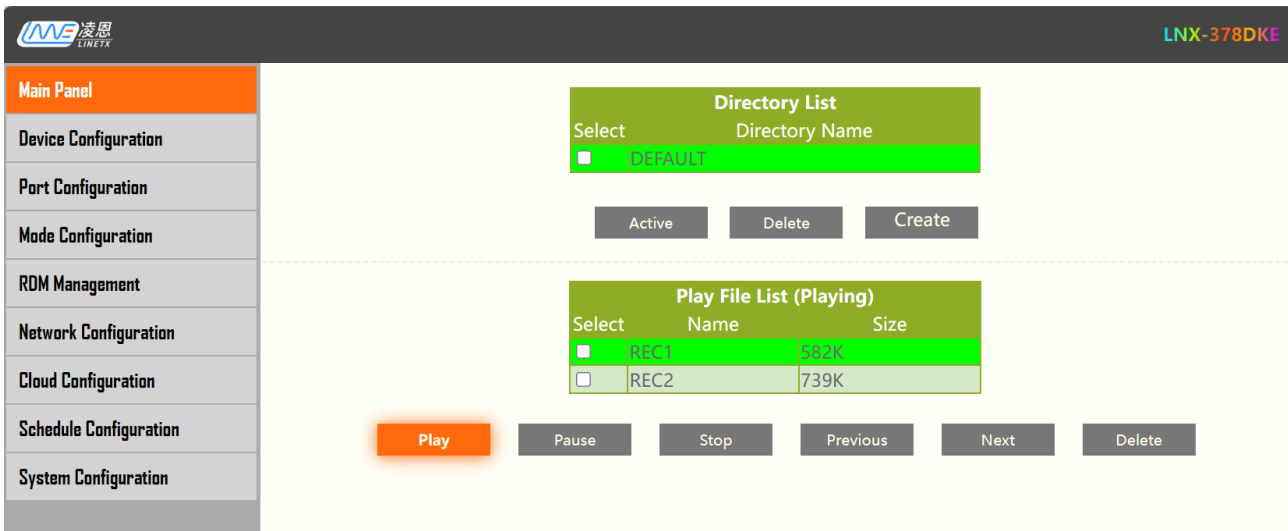

Figure 3-4 Main Panel of SD Play
b. The main panel of WEB shown in Figure 3-4: